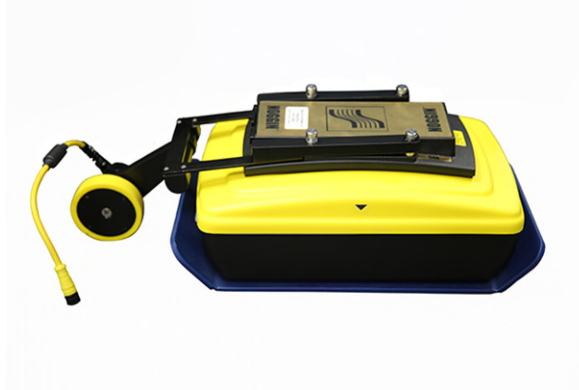

Figure 2-56: Sliding Odometer bracket over Noggin 500
1. Slide the Noggin odometer bracket over the four silver mounting posts (Figure 2-56)